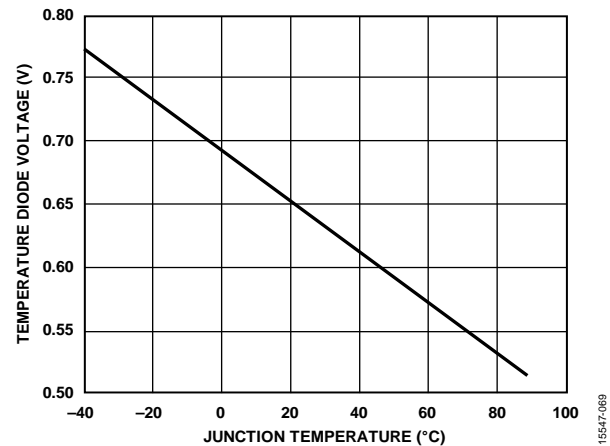

Figure 74. Typical Voltage Response of the 1× Temperature Diode
4. Set Register 0x18E6 to 0x01 to turn on voltage export of the central 1× temperature diode. The typical voltage response of the temperature diode is shown in Figure 74. Although this voltage represents the die temperature, it is recommended to take measurements from a pair of diodes for improved accuracy. The following step explains how to enable the 20× diode.